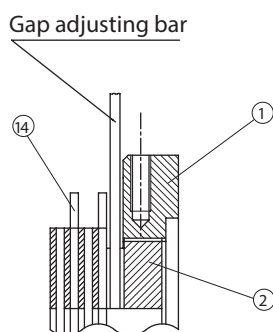
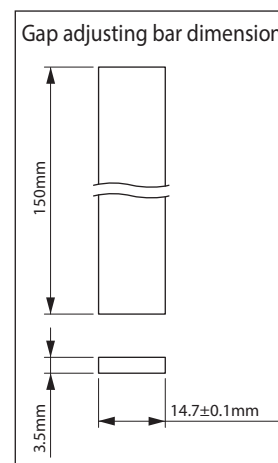

Figure 8-40
Figure 8-41
- (3) Insert the gap adjusting bar (customer to prepare an angle plate. See Figure 8-41) from between the outer disc [14] and the center ring [1] into a hole for a gap adjusting screw [2]. Rotating to the left as seen from the field [4] side, will narrow the gap. (See Figure 8-40)
- (4) Six attachment bolts [3] and lock bolts [11] alternately pass through the space between the outer disc [14] and the center ring [1]. Rotating the gap adjusting bar will contact these bolts. There are 8 equally distributed holes for gap adjusting screws [2]. Adjust the gap G to the required value by repeating (3) each time the gap adjusting bar contacts a bolt.
- (5) Select the point where hole and screw hole are closest to the required gap and attach the stopper [16] there.
- (6) After returning the manual brake release to its original state, turn power on and off to check brake action.
- (7) Attach the brake cover [22], V-ring [23], fan [7], fan set screw [10], cover [8] and outdoor cover [25]. At this time coat the fan set screw [10] with Three Bond TB2365.